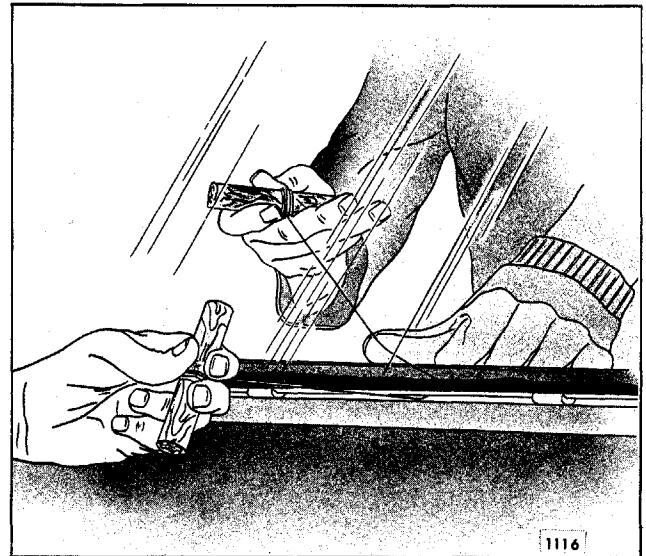

Fig. 11-4 - Cutting Adhesive Material
- a. Secure one end of steel music wire to a piece of wood that can serve as a handle. Using long nose pliers, insert other end of wire through adhesive material at edge of glass, then secure that end of wire to another wood handle (Fig. 11-4).
- b. With aid of helper, carefully cut (pull wire) through adhesive material around entire perimeter of window. If short method will be used to install new glass, hold wire or cutting tool close to inside plane of glass to prevent cutting an excessive amount of adhesive material from window opening. Keep tension on wire throughout cutting operation to prevent wire from kinking and breaking (Fig. 11-4).